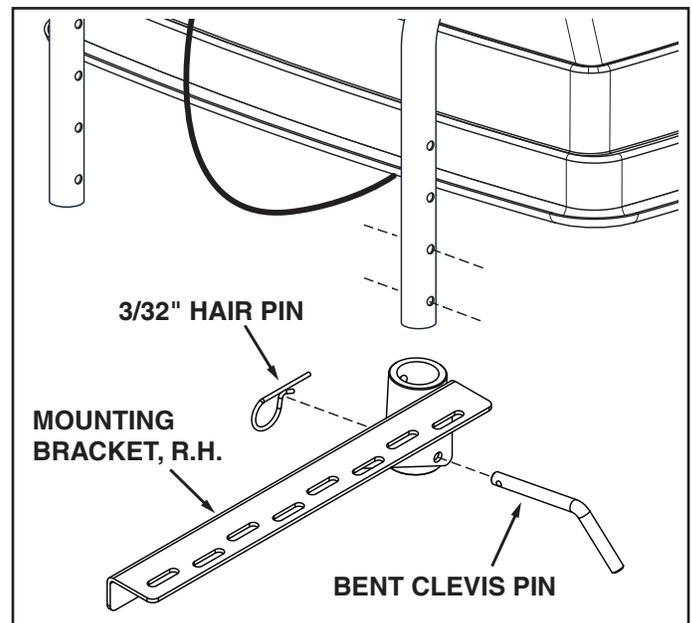

FIGURE 3
NOTE: The top of the hopper should be at least 30" above the ground. The mounting holes shown in figures 3 and 4 will make the top of the hopper even with the vehicle's rear rack. If exhaust blows against spreader, a higher mounting position may help.
3. Attach the R.H. mounting bracket to frame tube using two bent clevis pins and 3/32" hair pins as shown in figure 3. **Tighten.** Repeat for the L.H. mounting bracket.